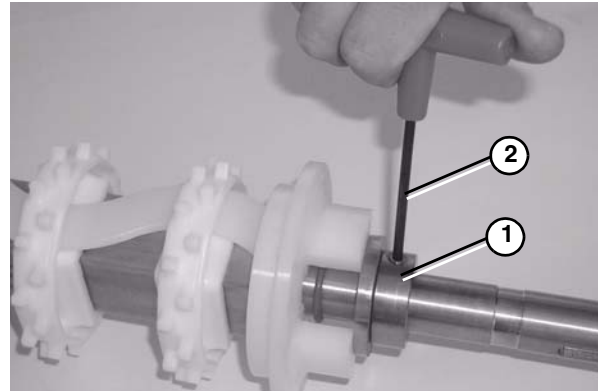

Figure 79
7. Slide the retaining ring (**Figure 79, item 1**) onto the drive spindle. Leave a slight gap between ring and washer to allow flanged puck to spin freely.
8. Tighten the retainer ring fastener using a hex wrench (**Figure 79, item 2**).